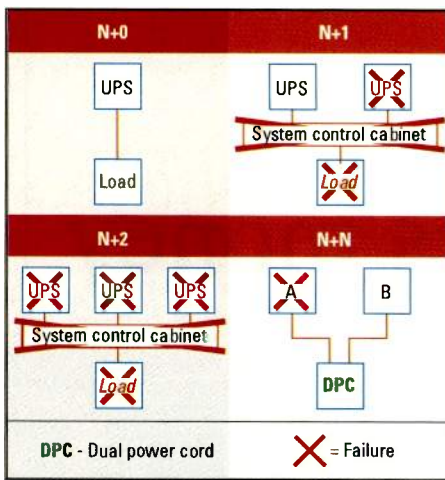

Figure 1. Redundancy has progressed from the simplest system design of N+0 to hardened approaches with "system plus system" (N+N) capabilities.
In a power-delivery system, where N equals the load, the number of elements (N) and their configuration defines the system's redundancy. As Figure 1 shows, there are many variations of redundancy. Redundancy has progressed from the simplest system design of N+0 to hardened approaches with "system
redundancies are similarities that appear within a frame, such as a large number of similar pixels that portray a uniformly blue sky. Figure 1 is a simplified representation of the steps that MPEG encoders take to perform temporal and spatial compression.
Figure 1. This block diagram is a simplified representation of the steps that MPEG encoders use to perform temporal and spatial compression. The dotted line represents an additional data path used in MPEG-4 AVC spatial compression.